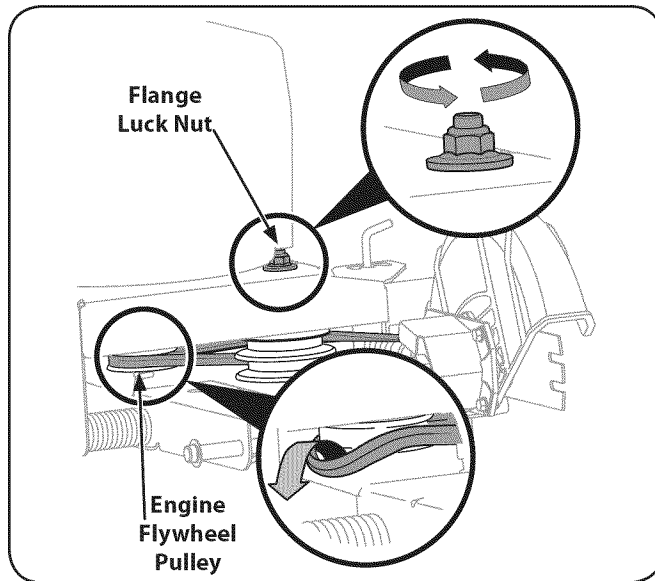

Figure 7-1
**NOTE:** To aid in reassembly, note the orientation of the drive belt on the two idler pulleys and the engine flywheel pulley prior to performing the following steps. See to Fig. 7-1.
1. Working in front of the edger, loosen the flange lock nut on top of the frame, allowing the idler pulley assembly to pivot slightly out from the frame. See Fig. 7-1.
2. With your other hand, carefully reach under the rear of the edger and remove the belt from around the engine flywheel pulley. See Fig. 7-1.